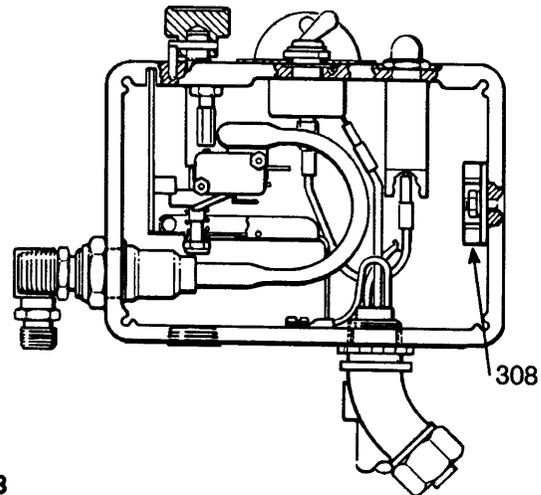

Fig 8
Disconnect the two leads from the motor to the bridge (308). See Fig 8.